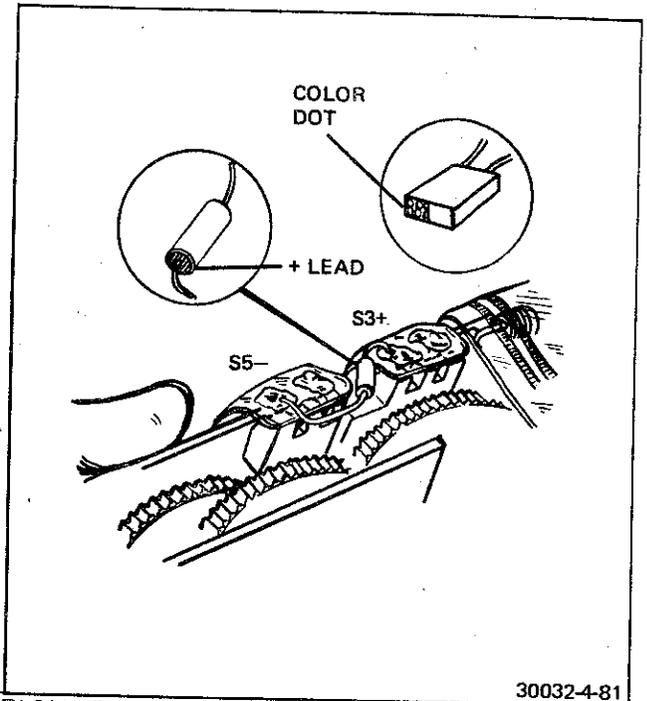

FIGURE 4-81 FAIRCHILD SHUTTER, CAPACITOR INSTALLATION
*NOTE: If the camera has a Fairchild shutter, install a .047 to .1 MF polarized capacitor to prevent a switch S3 contact bounce. If the subject camera is so equipped, no further action is required. If not, connect the positive lead of the capacitor to the positive S3 contact and the negative lead to the negative contact of the S5 switch. See Figure 4-81.*